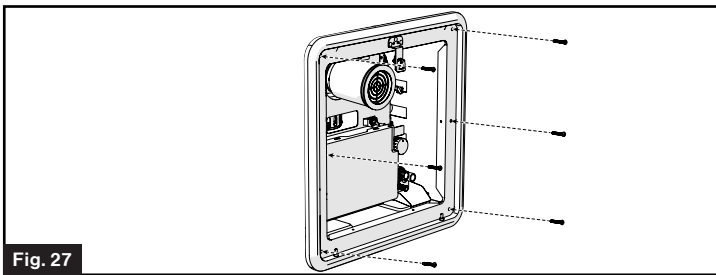

Fig. 27
5. Mount the door frame to the sidewall frame using 6 #8 (min 1") pan head screws (not provided). Verify that a tight seal exists between the side wall and the door frame. (Fig. 27)